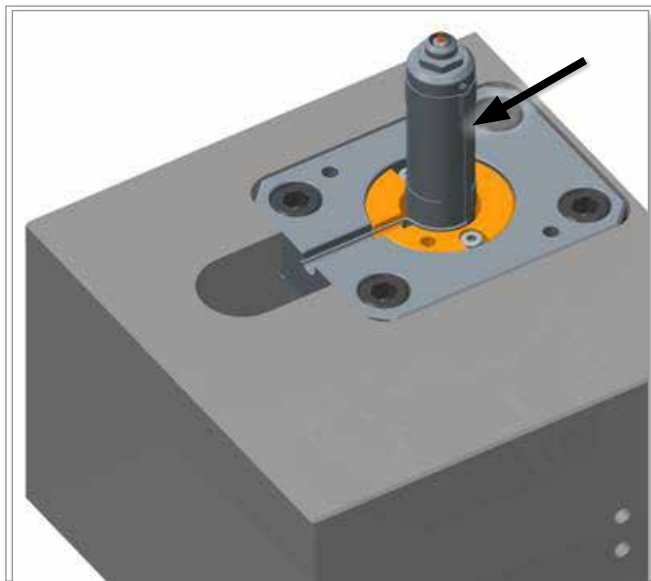

Figure 11-26 Mount nozzle thermocouple
7. Mount the nozzle thermocouple on the front of the nozzle. See Figure 11-26.